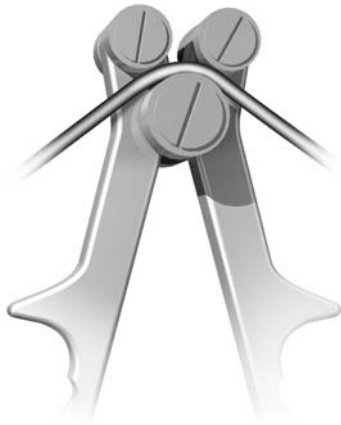

Figure 10d
- To contour the rods, secure the rod within the Hand Held Rod Bender and gently contour until desired radius is achieved (Figure 10d). OC Tube Benders are also available and can be slid over each end of the rod to provide additional leverage in contouring the rod.